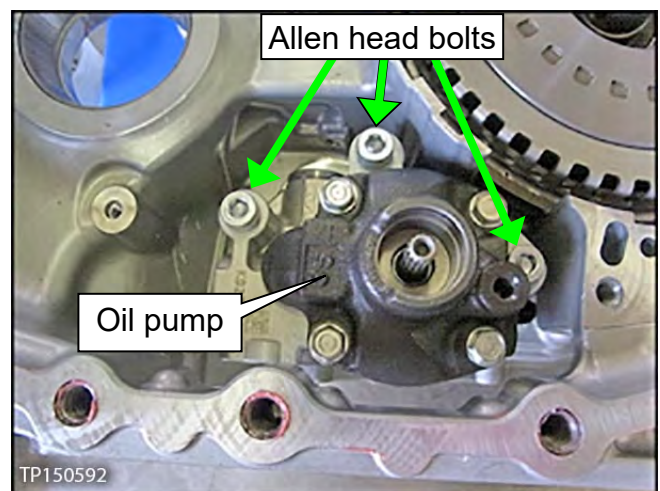

Figure 47
9. Remove the three (3) Allen™ head bolts, and then remove the oil pump (see Figure 47).